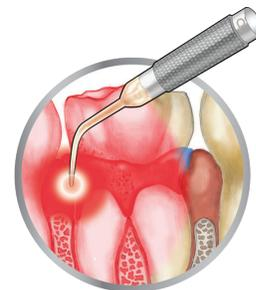

Figure 3: Illumination
a. Gently place the light diffusing tip into the apex of the irrigated treatment site and activate the laser (figure 3). Use caution and a light handed working stroke when inserting the light diffusing tip to the base of the sulcus.